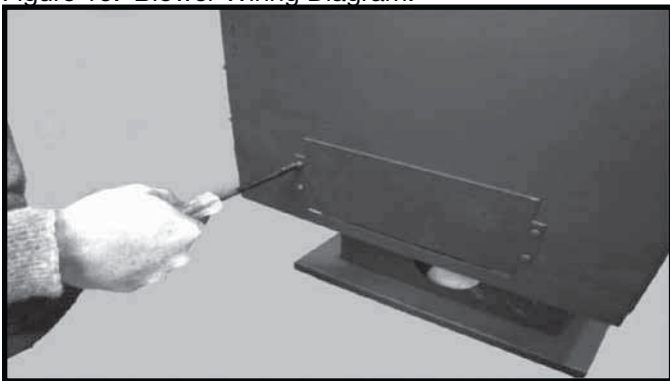

Figure 17: Remove the cover plate.
1. Remove the two screws and cover plate from the rear shield on the stove (Figure 17).